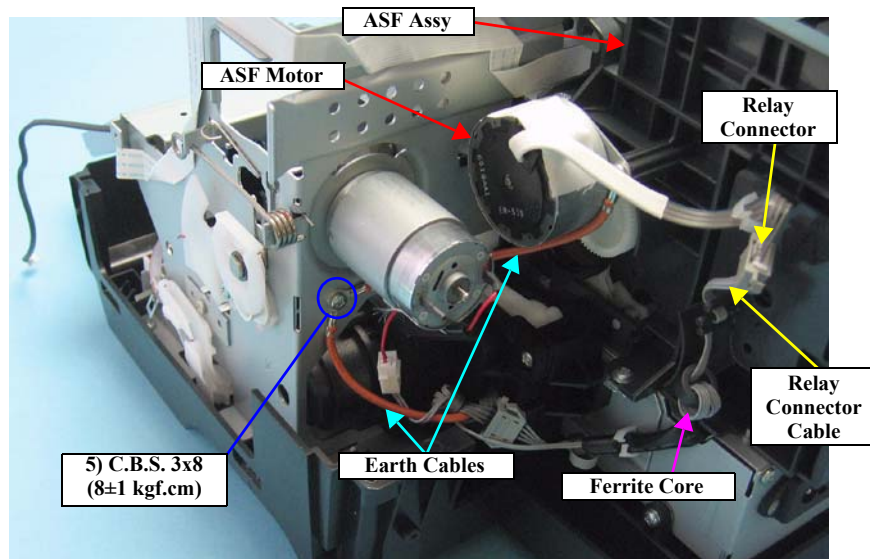

Figure 4-27. Releasing the Cables (1)
- Referring to Figure 4-27, correctly route the Relay Connector Cable.